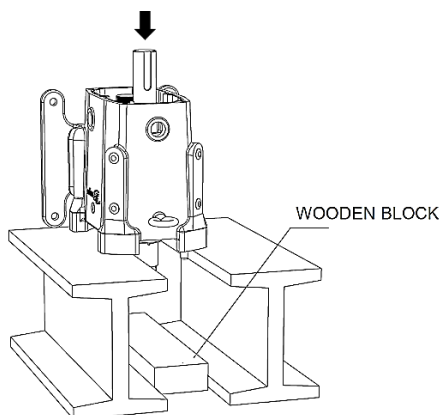

Figure 46: Pressing Shafts From Gear Case
4) Remove the gear case studs and set the gear case in a press with the fluid end side facing down (Figure 46). Use a wooden block to protect the shafts from hitting the ground when pushed out. Once the protective block is in place, push the shafts out of the gear case.